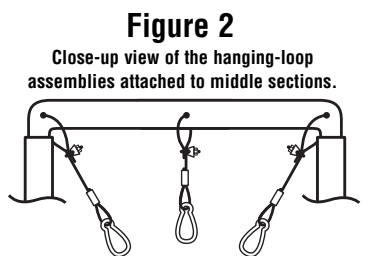

Figure 2
- Slide the cable clamp up on the cable and tighten it, leaving one inch of cable hanging below. **See Figure 2.**